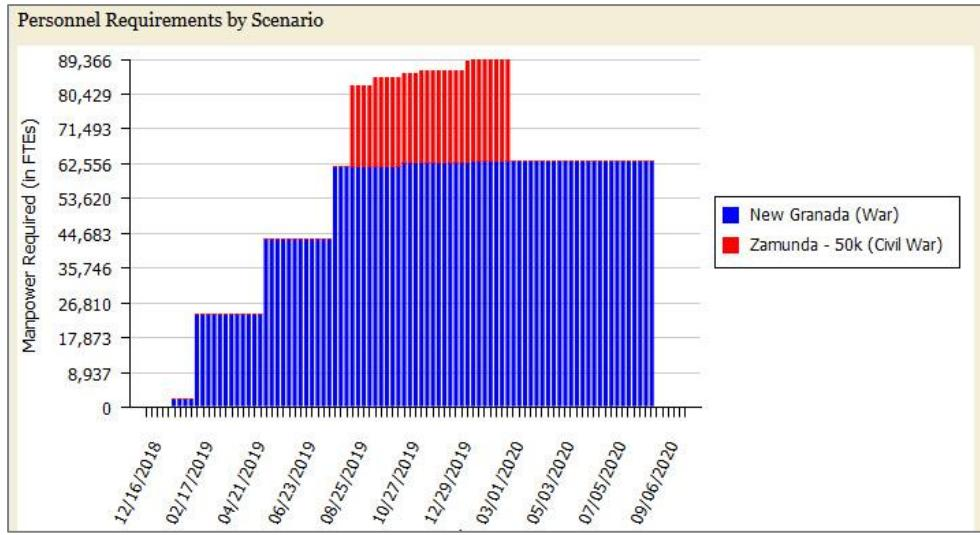

Figure 13. Zamunda & New Granada baseline analysis: Personnel Requirements by Scenario.
19. Personnel Requirements by Scenario graph should look like Figure 13. It can take a while to load.